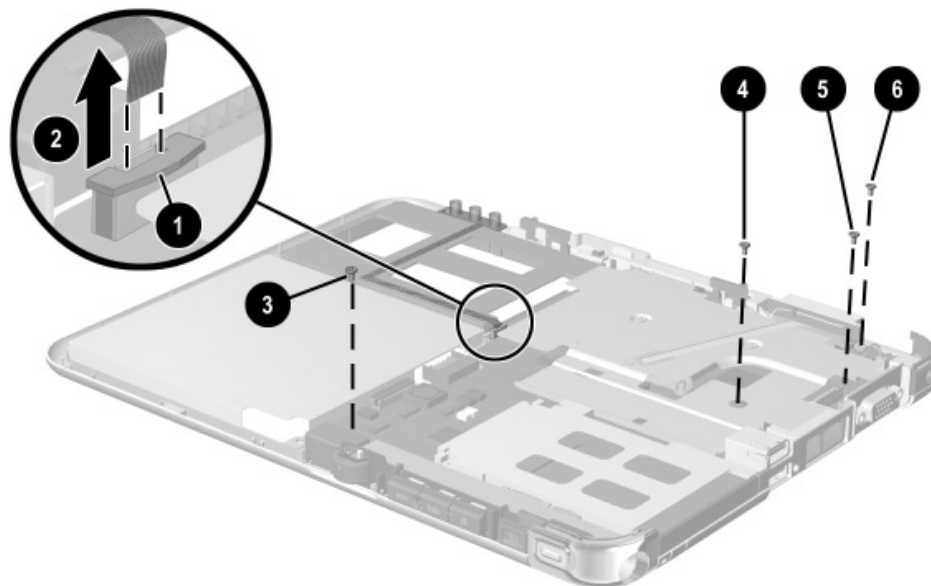

Figure 5-24. Removing the System Board Screws
13. Release the ZIF connector ❶ to which the LED board cable is attached and disconnect the LED board cable ❷ from the system board (Figure 5-24).
- ☐ Next to the pen holder spring clip ❸
- ☐ Directly behind the USB connectors ❹
- ☐ Directly behind the external monitor connector ❺
- ☐ Left side of the heat sink grille ❻